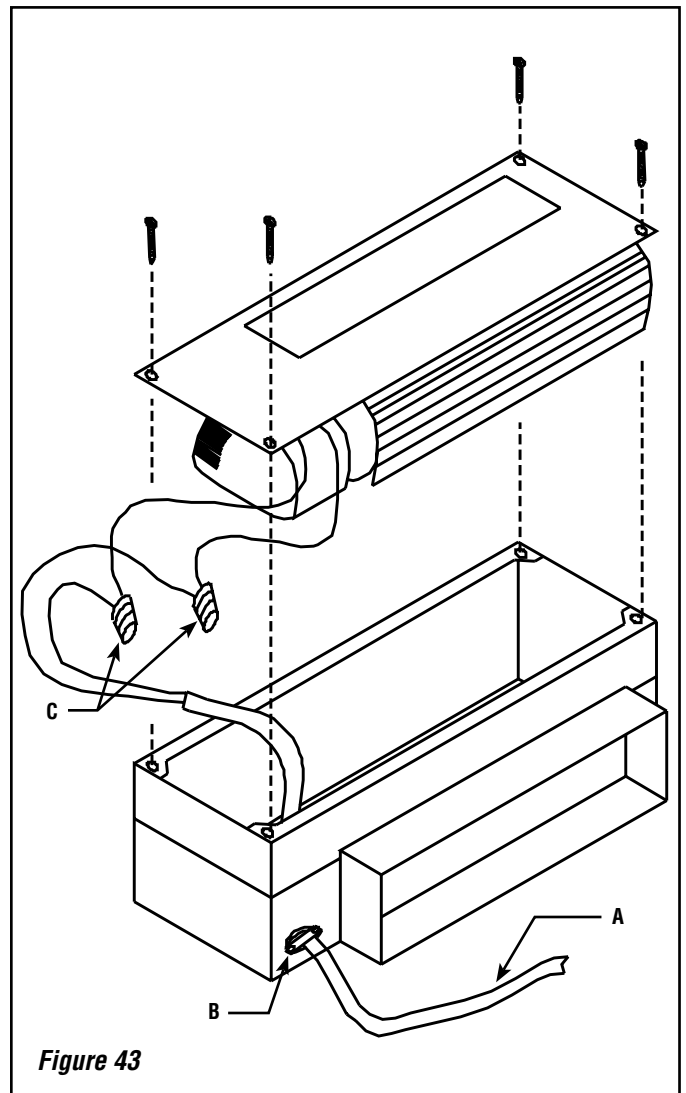

Figure 43
4. Remove the four screws holding the blower to the blower box and lift blower out of the blower box (see **Figure 43**). Feed the sheathed wire A through the wire clamp B. Remove the insulation from the sheathed wire and the two wires coming from the blower motor. Join together using the wire nuts provided the black wire from the motor and the black sheathed wire. Also join the two white wires. Fasten the ground wire to the green grounding screw inside the blower box. Reinstall the blower in the blower box using the four screws.